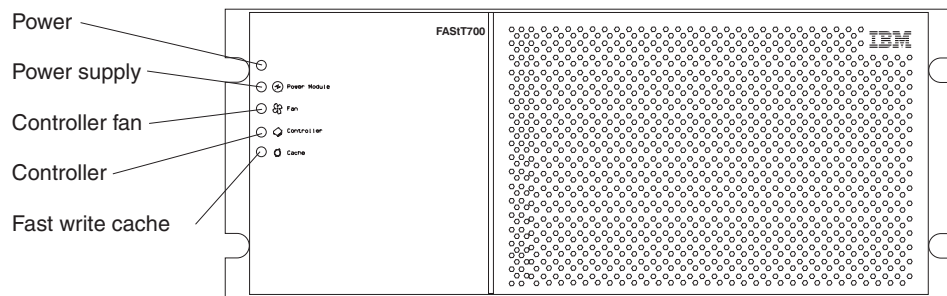

Figure 34. Indicator lights on the FAST700 Storage Server bezel
- Using Figure 34 as a guide, check the controller indicator lights.